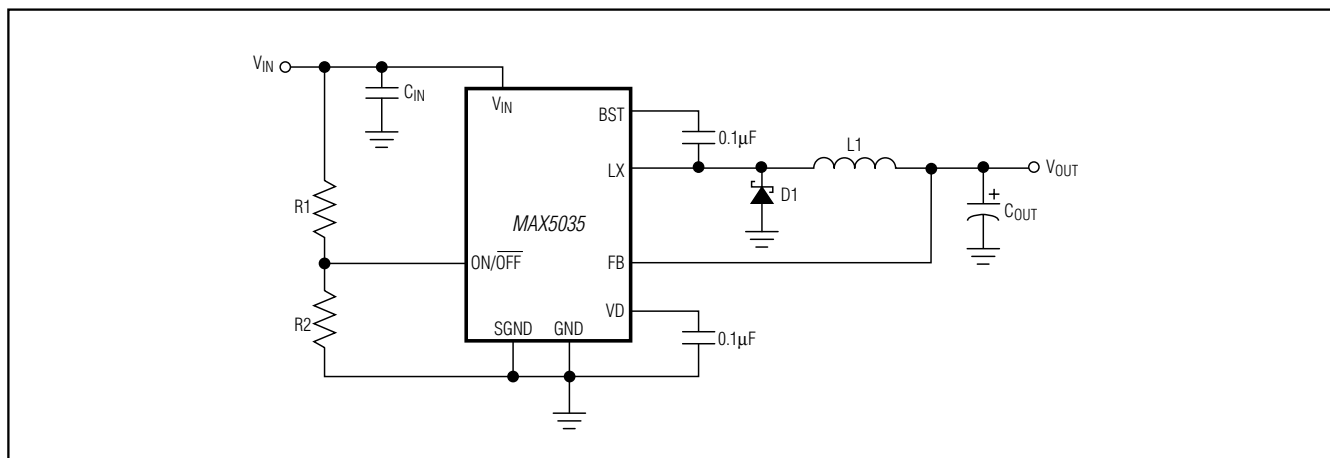

Figure 2. Fixed Output Voltages
Table 2. Typical External Components Selection (Circuit of Figure 2)
**Table 2. Typical External Components Selection (Circuit of Figure 2) (continued)**